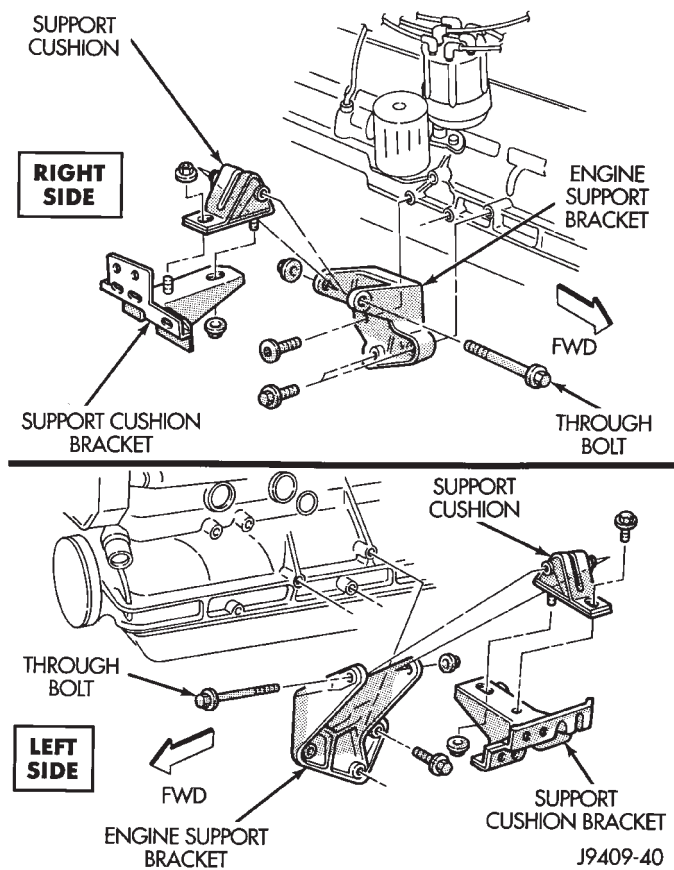

Fig. 6 Front Mounts—XJ Vehicles
- (1) Disconnect negative cable from battery.
- (2) Raise the vehicle.
- (3) Support the engine.
- (4) Remove the nut from the through bolt (Figs. 6 and 7). **DO NOT** remove the through bolt.
- (5) Remove the retaining bolts/nuts from the support cushions (Figs. 6 and 7).
- (6) Remove the through bolt.
- (7) Remove the support cushions.
(1) If the engine support bracket was removed, position the bracket onto the block and install the attaching bolts (Figs. 6 and 7). Tighten the engine support bracket bolts:
(3) Place the support cushion into position on the support cushion bracket (Figs. 6 and 7). Install and tighten the bolts/nuts:
(4) Install the through bolt and the retaining nut (Figs. 6 and 7). Tighten the through bolt nut:
- (5) Remove the engine support.
- (6) Lower the vehicle.
- (7) Connect negative cable to battery.